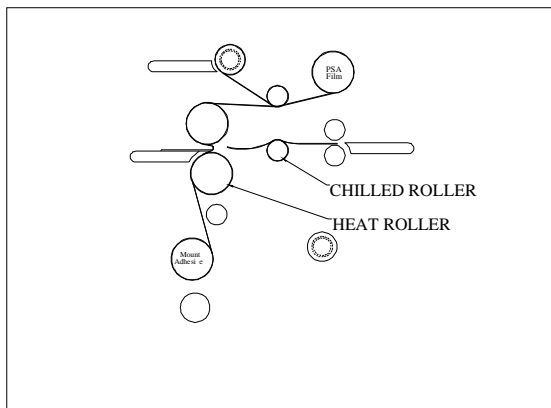

Figure 24
8. Insert the table back to its feeding position while ensuring the threading card is on top of the feed table (Fig. 24).